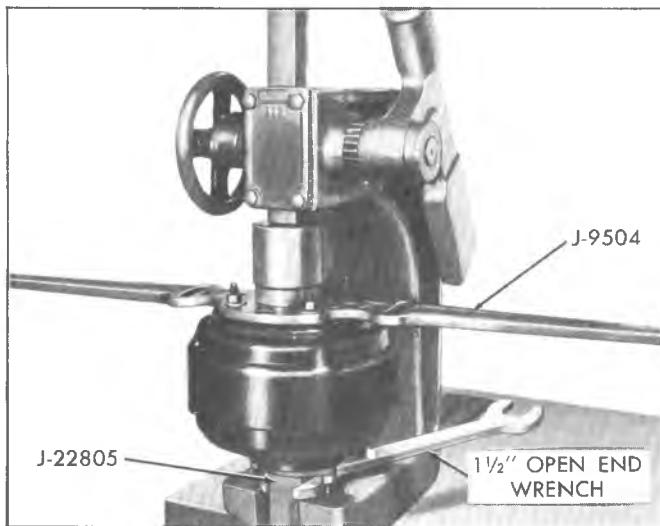

Fig. 6D--Holding and Separating Housings Using
plate of press by a suitable means of holding Tool J-22805 (fig. 6D). By using a 1-1/2" open end wrench on Tool J-22805 and allowing unit to turn against back of arbor press, press will hold unit from turning.
16. Place Spanner Wrench J-9504 over studs on rear shell (fig. 6D). Use three washers and nuts to attach wrench to housing. Use a suitable piece of pipe of approximately two inches I.D. and approximately three inches in length. Place over plastic diaphragm plate hub. Place a piece of flat stock steel over end of pipe and press rear housing down far enough to relieve tension of diaphragm rubber lip and spring.
12. Secure front housing and Holding Fixture J-22805 on arbor press plate by a suitable means (fig. 6D).